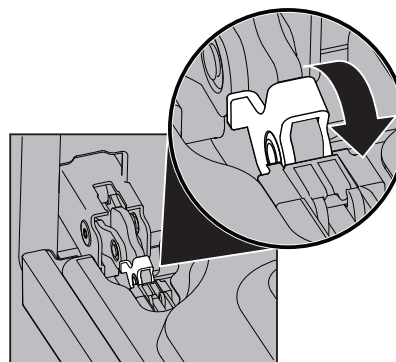

Figure 12: Door hinge lock
2. Pull up the lock located on each hinge support toward front of the oven until the lock stops. You may have to apply a little upward pressure on the lock to pull it up (Figure 12).
4. Push the door hinge locks up toward and into the oven frame on both left and right oven door hinges to the locked position (Figure 12).